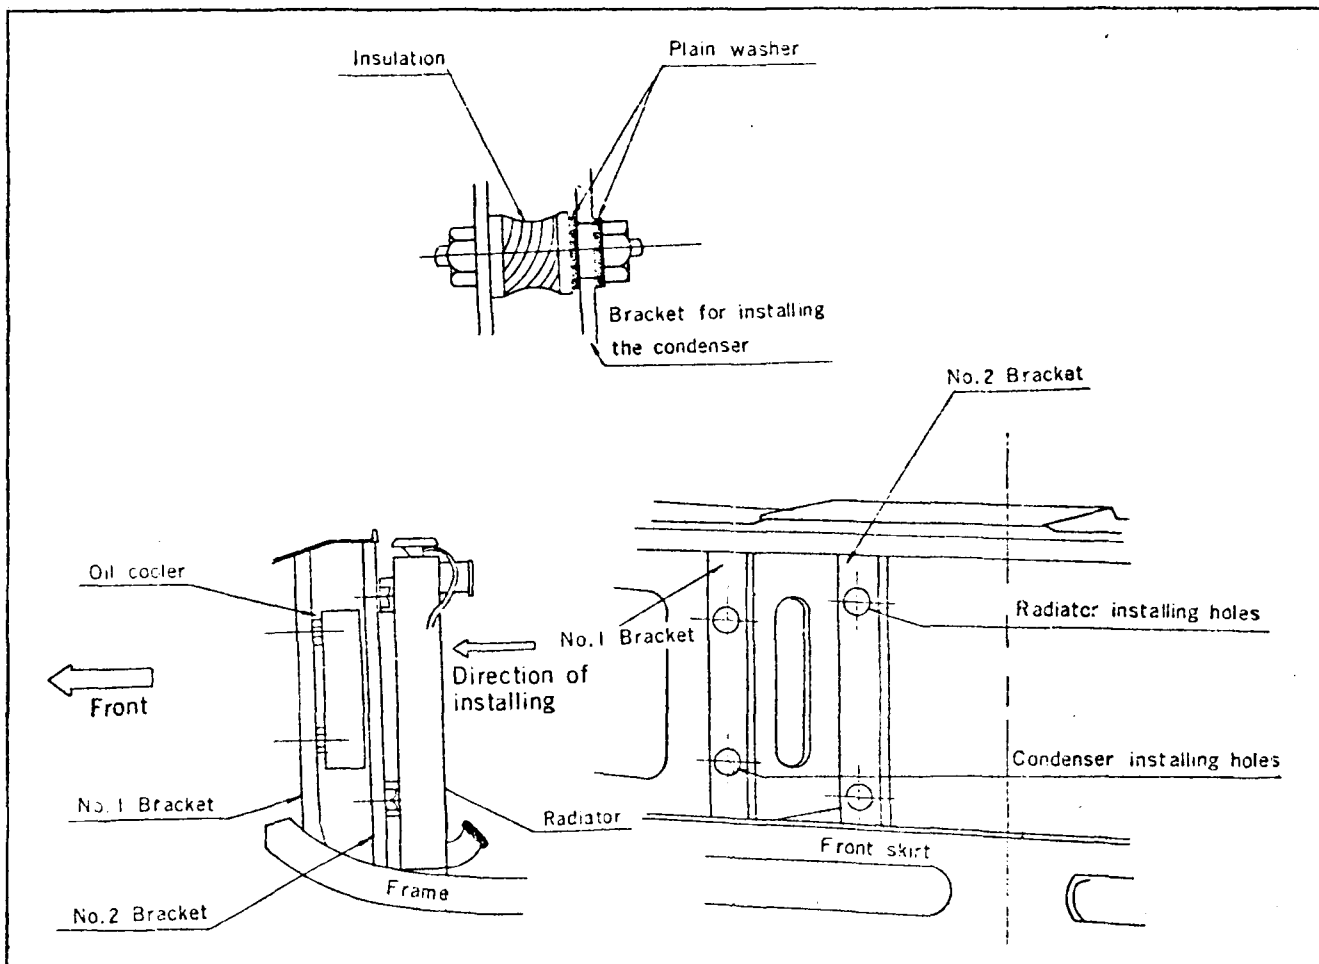

Fig. 2-23 Installing of Oil Cooler
car cooler (See Fig. 2-23).
(2) Attach it from the radiator side and fasten.
(3) The condenser attaching hole is larger than the insulation bolt, so install the oil cooler through plain washers. (See Fig. 2-23)